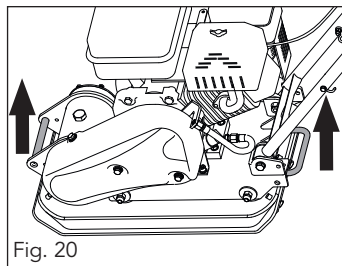

Fig. 20
The unit can be lifted by the handles in front (8) and back of the unit as shown (fig. 20).